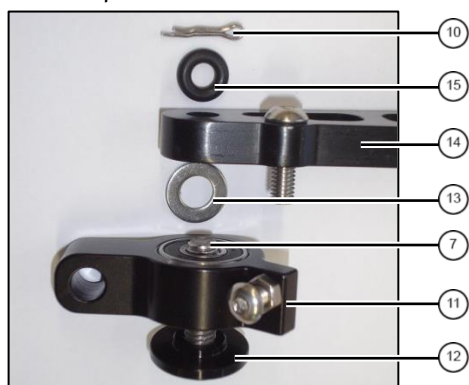

fig. 5: hinge block
5. Install hinge block ⑪ with bolt ⑦ and threadlock adhesive, bearing cover ⑫ and washer ⑬ at steerer arm ⑭ (see fig. 5). **Tightening torque 8Nm.**
6. Stick O-Ring ⑮ on bolt and install splint ⑩ (see fig. 5).